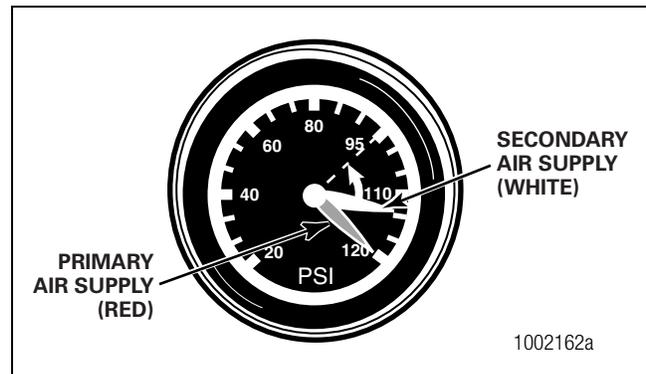

Figure 3.3
3. Check the secondary tank air gauge. It should read 95 ± 5 psi (655 kPa). Figure 3.3.